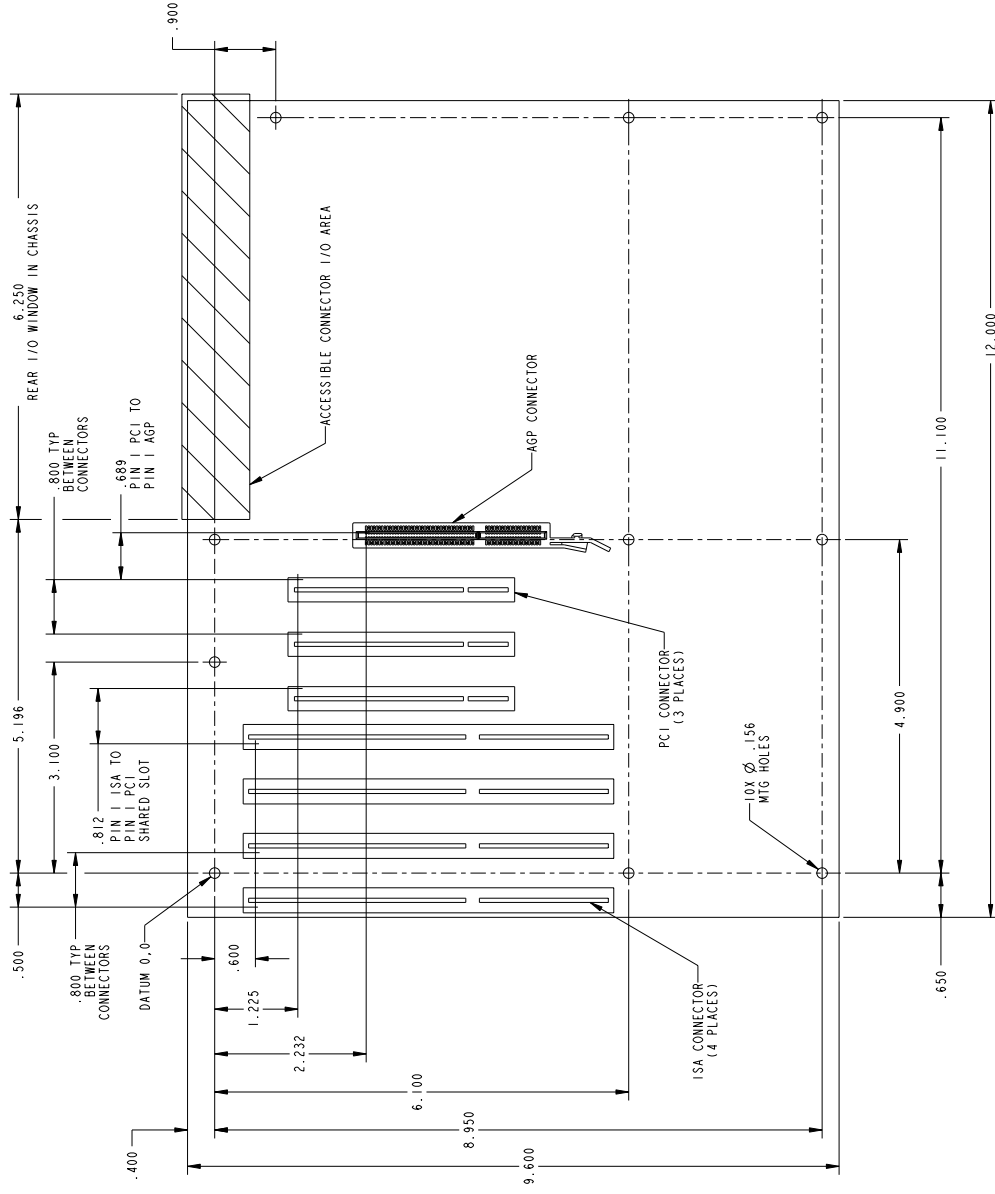

Figure 3. Sample ATX Layout Diagram
- Figure 3 shows the exact location (dimensions) of the mounting holes for ATX boards.
Table 3 lists connector locations. Figure 3 clearly defines the location of the PCI and ISA connectors as well as the allowable placement area for I/O connectors on the back panel. The specification provides recommendations, but the exact locations of other connectors are left to the judgment of the motherboard designer working in conjunction with the system integrator.
The ATX form factor supports up to seven expansion slots. These slots may be any combination of ISA, PCI, shared ISA/PCI, AGP, CNR, or shared CNR/PCI. Figure 3 shows a combination of the three ISA slots, two PCI slots, one shared ISA/PCI slot, and one AGP slot. The location of pin 1 is defined for each of the connectors. If a combination other than that shown in Figure 3 is desired, motherboard designers should extrapolate the location of pin one on each of the connectors. The slot spacing must remain constant. To allow all add-in cards to be full length, it is recommended that the height of any board component located to the left of the right edge of the seventh slot (plus clearance for the board components) be less than 0.6 inches (15.2mm). For more details on component height constraints, see Section 3.4. For extra support during add-in card insertion, it is suggested that mechanical support be implemented under expansion slots through use of a device such as a bumper.
(rear and side view—see Figure 3 for datum location)